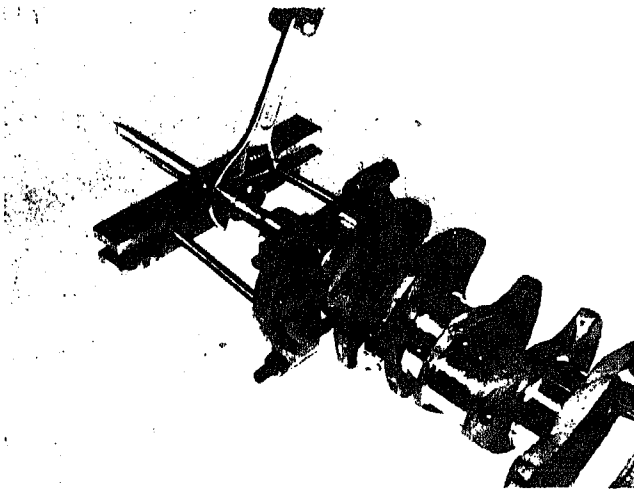

Fig. 1-4-1. Pulling crankshaft gear with ring-type puller
2. Attach a circular-type puller, as illustrated in Fig. 1-4-1, behind the crankshaft gear.